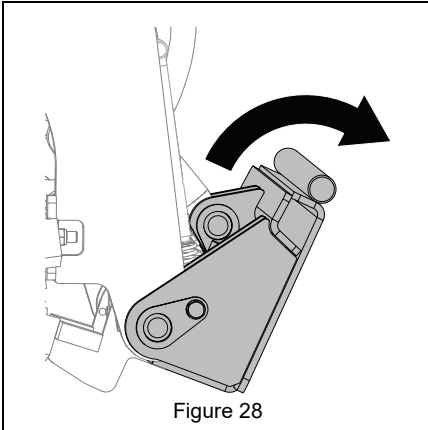

Figure 28
5. Start engine. Activate hydraulic safety interlock push button. Tilt attachment forward until top edge of attachment mount frame clears attachment lip. Back unit away from attachment. See Figure 28.